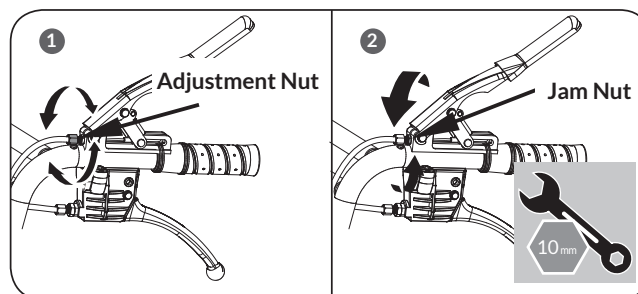

Figure 7b
2. Tighten or loosen the cable by turning the cable adjustment nut clockwise or counter clockwise with 10mm wrench until you have reached your required tightness. (see **Figure 7b, Illustration 1**)
3. Once tightness is set, return the jam nut against the handle to hold the cable in place. (see **Figure 7b, Illustration 2**)